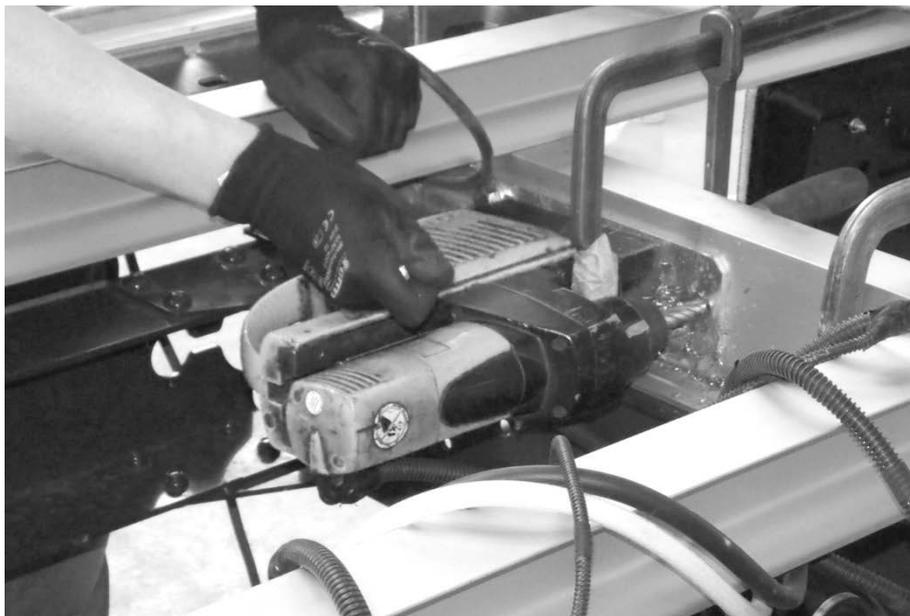

Figure 22: Drill the holes
- ▶ Drill the holes (see Figure 22). Drill through the frame if there is no frame hole pattern.